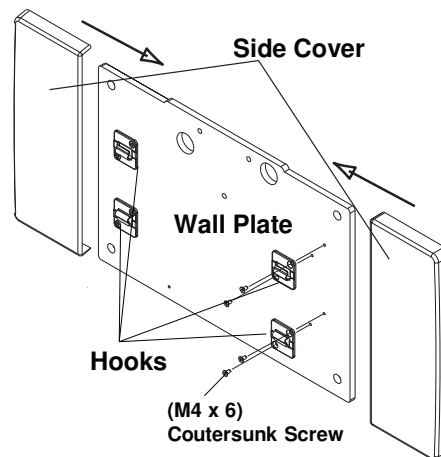

Fig.3-10 Side Cover Installation
2. Slide in the side cover from right and left side of the wall plate as the hooks catch the side covers. (Fig.3-10)